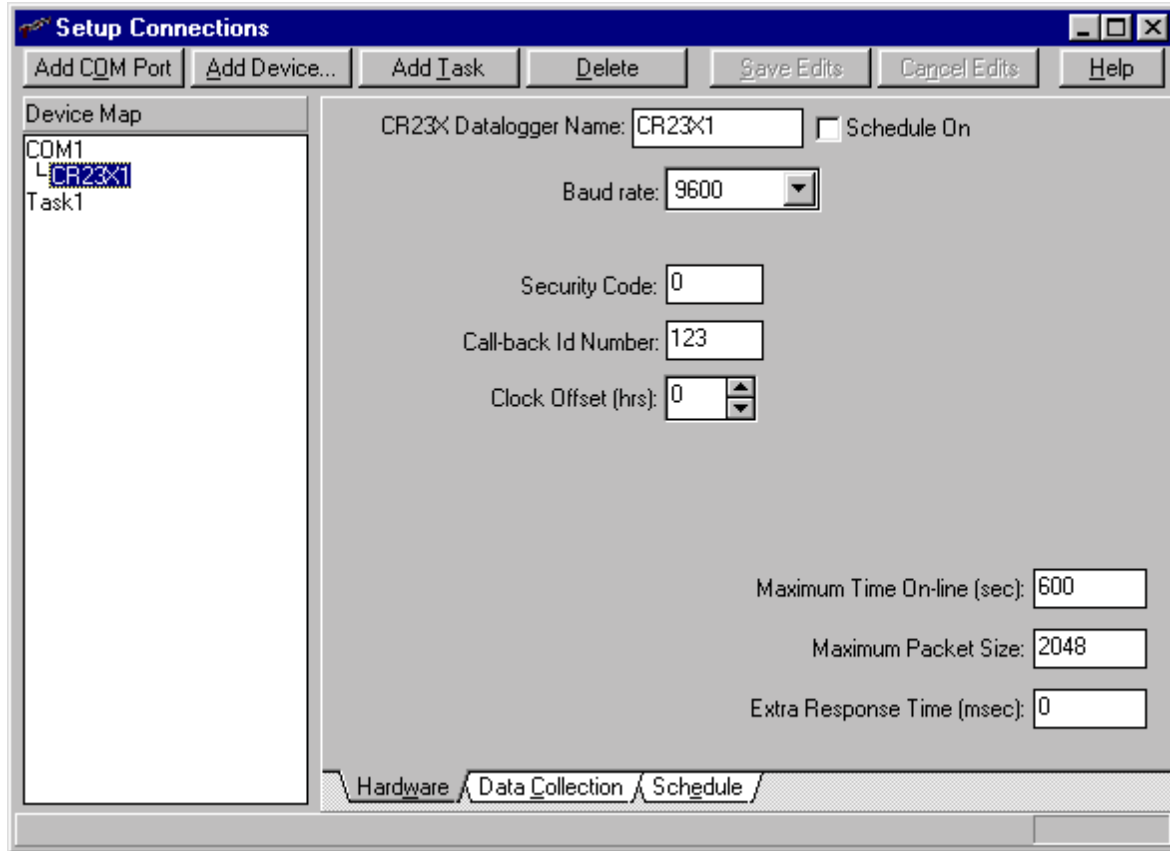

FIGURE G.2-2. Entering Callback Identification Code
- b) As shown in Figure G.2-2 go to *PC208W | Setup | (StationName) | Hardware* and enter a 3 digit identification code. The number you